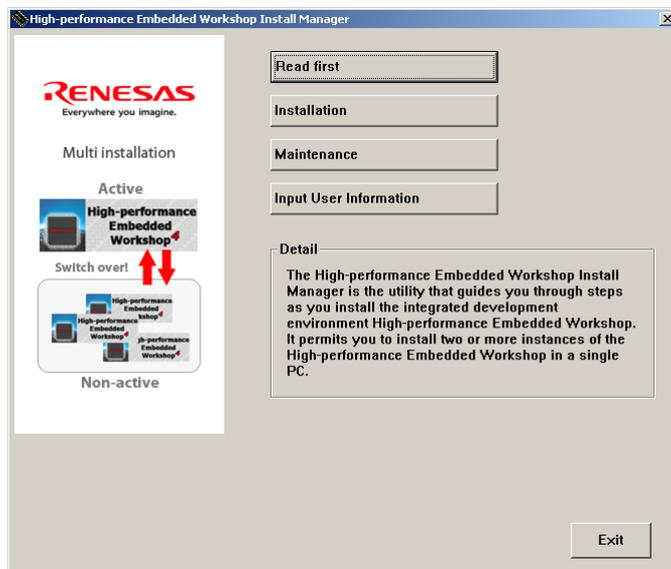

Figure 3.1.4 Installation Procedure (4/4)
(5) Follow the on-screen instructions to continue installation. When all installation is completed, the following window will appear as Figure 3.1.4. Click "Exit".